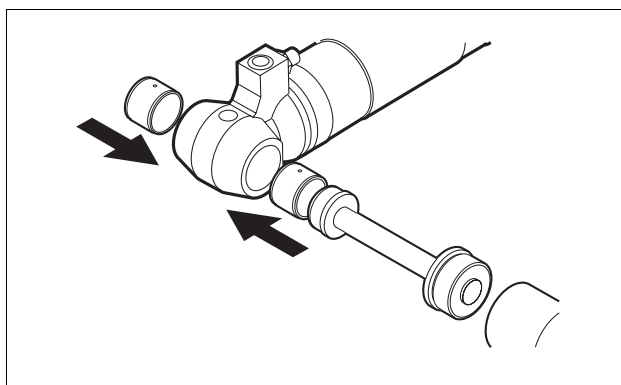

Fig. 42 Insert new bushings
5. Insert new bushings. *See Fig. 42.*